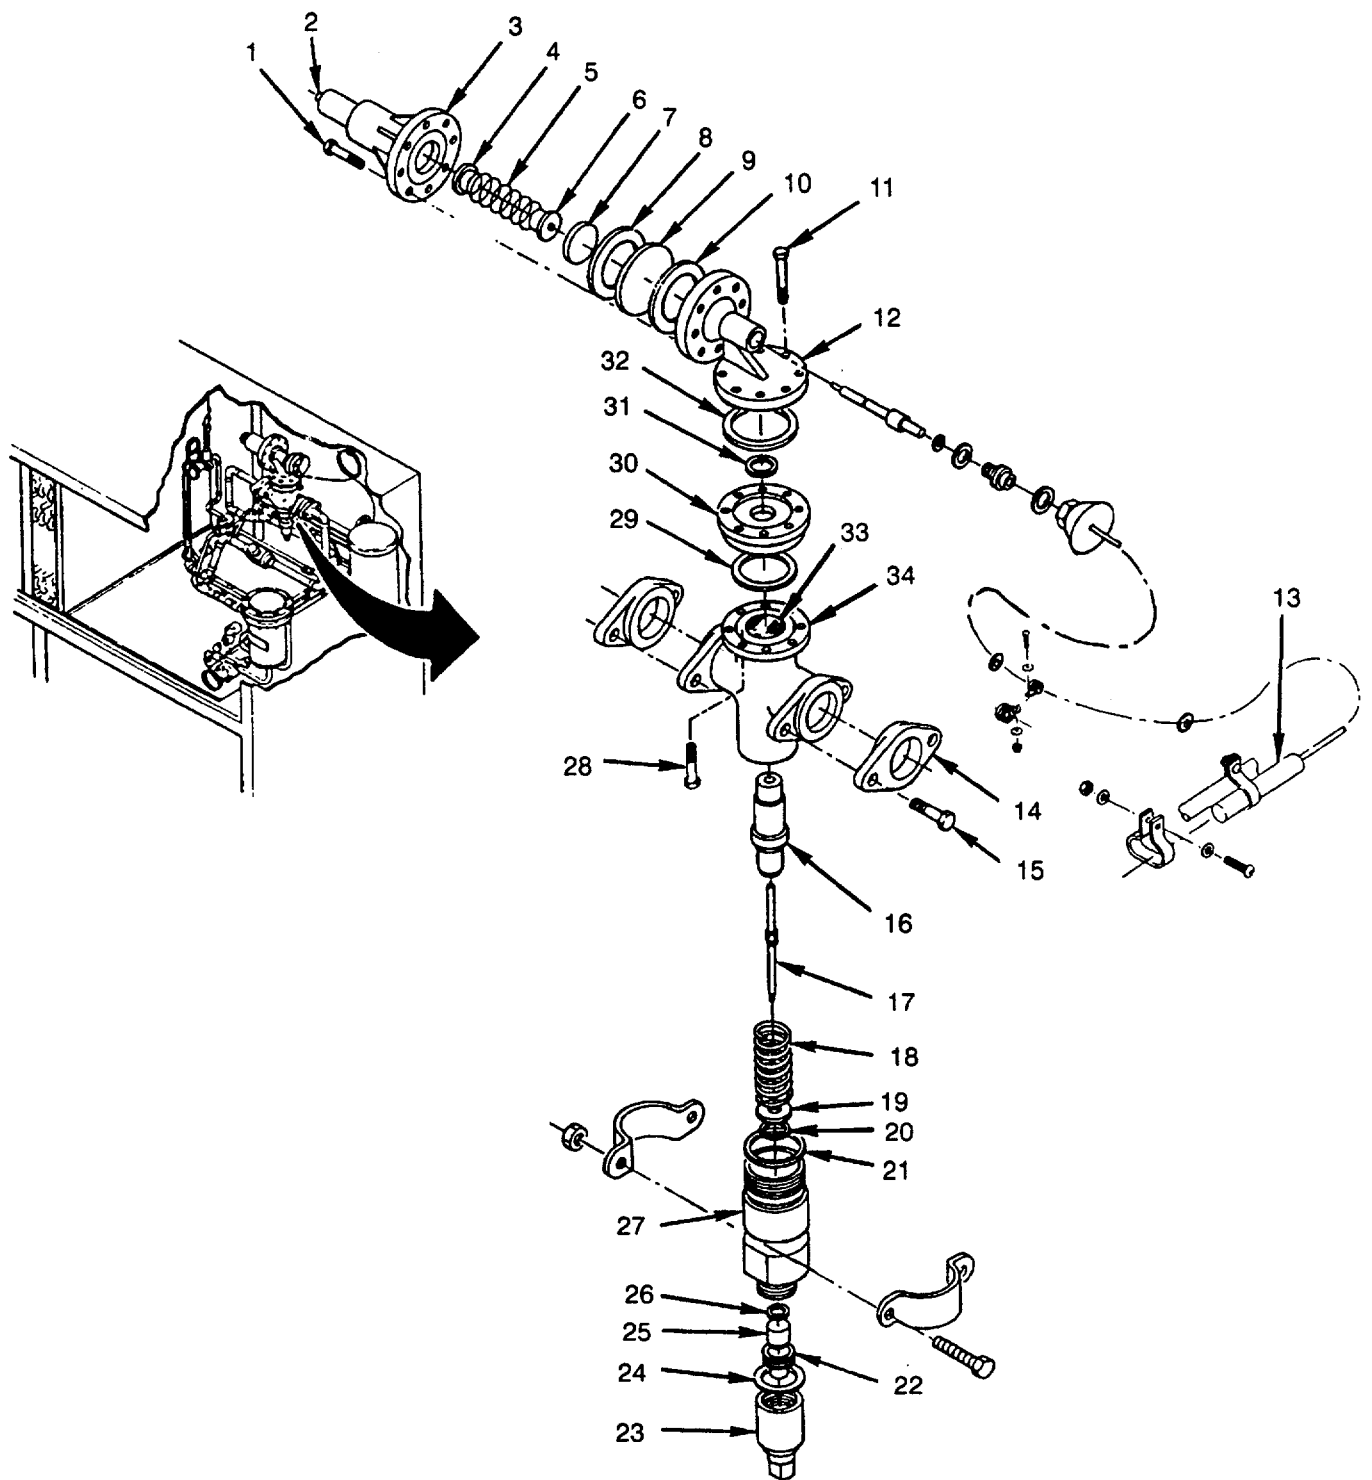

Figure 5-33. Pressure Regulator Valve
1. Inspect for evidence of leaks, kinked or damaged capillary lines, and loose or missing mounting hardware (see Figure 5-33).
2. Check thermal bulb (13) to see that it is securely clamped in the return air compartment (para 4-41).